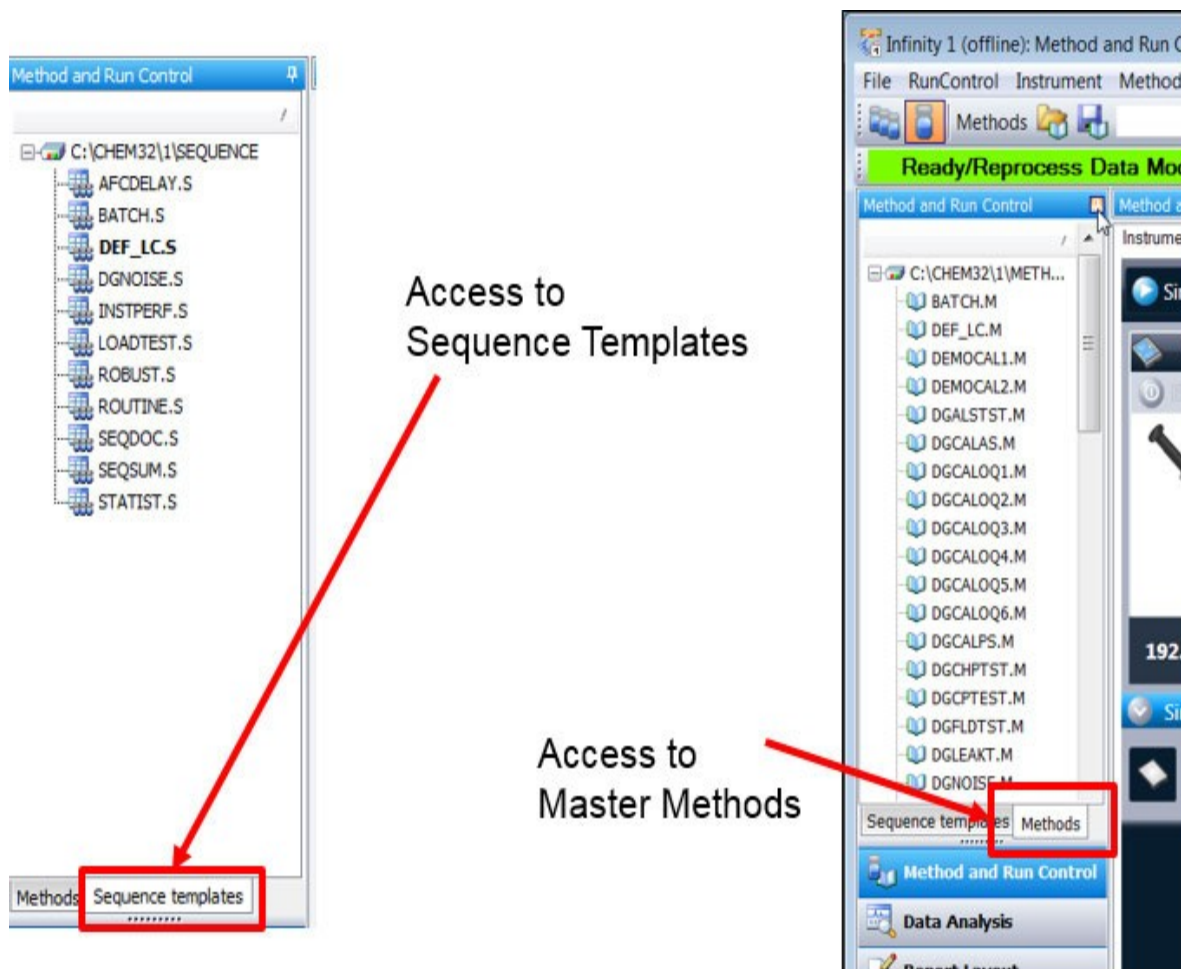
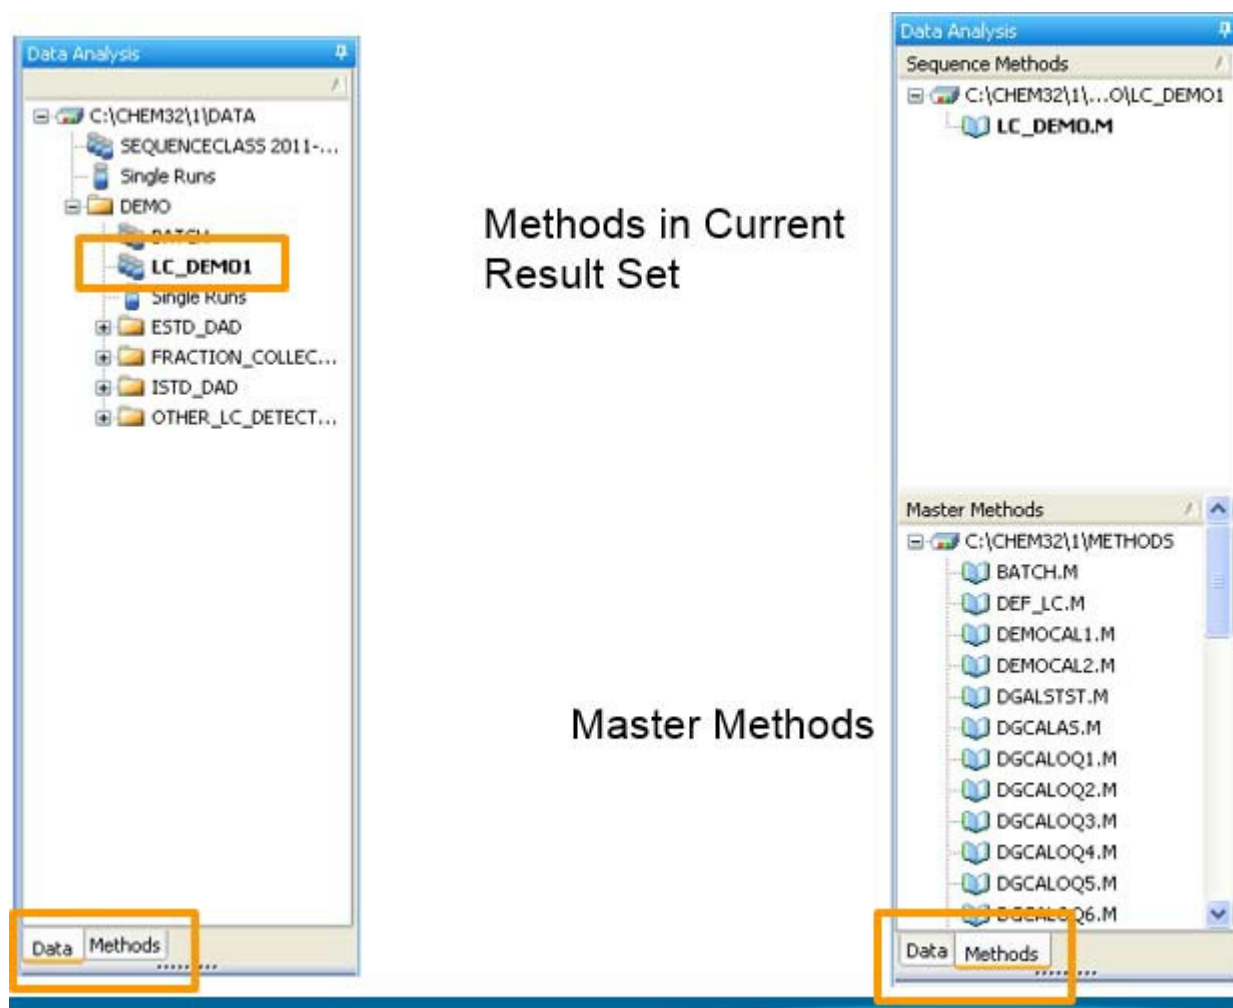

Figure 4: Methods in ChemStation Explorer (Method View)
Figure 5 Methods in ChemStation Explorer (Data Analysis View)
- 7.5 Clicking on Data Tab will allow access to Data Analysis View in ChemStation Explorer. From the Data Analysis view click on Methods at the bottom to view available methods. The upper half of the ChemStation Explorer shows the current sequence, shown in bold. The lower half of ChemStation Explorer shows the listing of the available Master Methods. (See Figure 4 and Figure 5 below.)
The Data Analysis view includes a Navigation Table designed to facilitate data file review. The Navigation Table shows the runs contained in a selected sequence container or single runs within a data folder. You can use the Navigation Table to access individual runs or to automatically scroll through a grouping of data files (Figure 5).